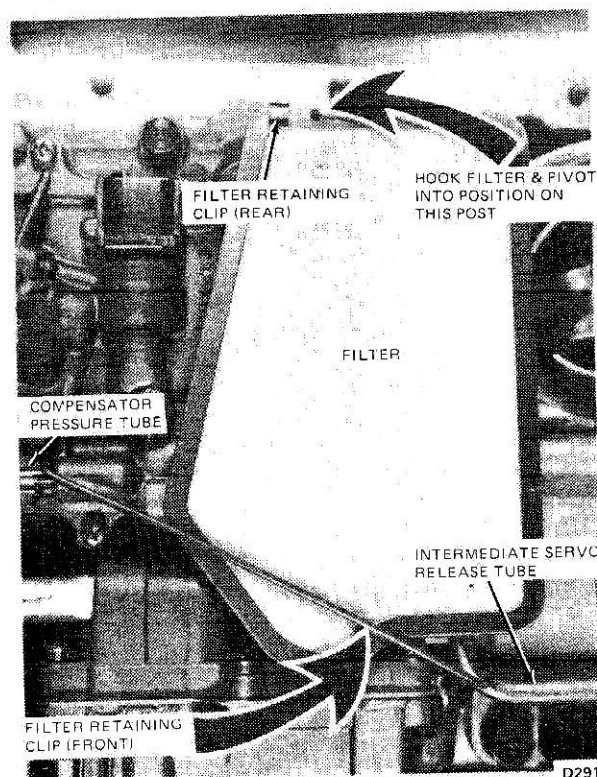

FIG. 8 Fluid Filter Transmission
5. Remove the small compensator pressure tube (Fig. 8).
5. Torque the attaching bolts to specification as listed at the end of this Part. Be sure that the rear filter retaining clip is installed under the valve body bolt as shown in Fig. 8.
12. Install the fluid filter by hooking the filter on the rear filter clip (Fig. 8) and pivoting it into position.
13. Install the filter retaining clip (front); attach one end to the compensator pressure tube and the other end to the intermediate servo release tube (Fig. 8).